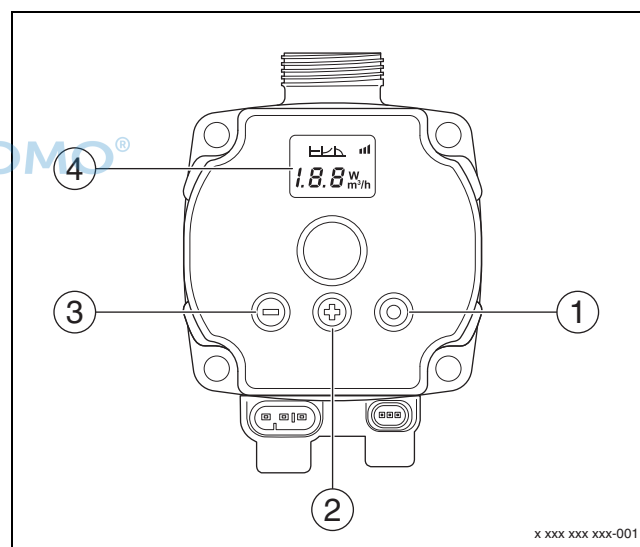

Fig. 7 Settings, pump Calio SI 25-80 HP PWM
- Press the switch (→ Figure 7 [1]) to activate the display (→ Figure 7 [4]) from idle mode.
3. To set the set value, press the switch (+) or (-) (→ Figure 7 [2] and [3]) to AN. Analogue signal 0-10 V appears.
4. Press the switch (→ Figure 7 [1]) to accept the set value.